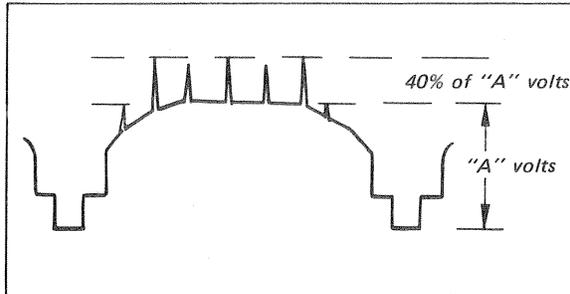

Fig. 5-5 White clip
20. Adjust R144 (white clip) so that the extreme white peaks of the waveform are clipped at 40% of "A" volts as shown in Fig. 5-5.